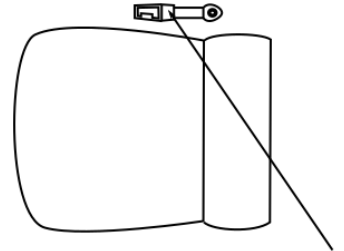

Figure 3.1.1 Floor Mounted Stalk Buckle RH & LH
- Figure 3.1.1 shows the position and orientation of the RH and LH floor mounted stalk buckle.